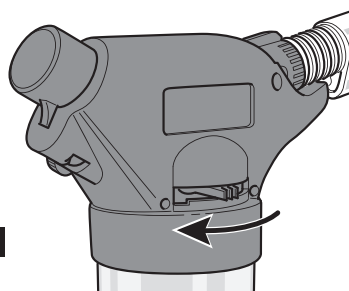

FIG. 7
- Turn the Flame Control Slider to the minimum position as shown in Figure 7.